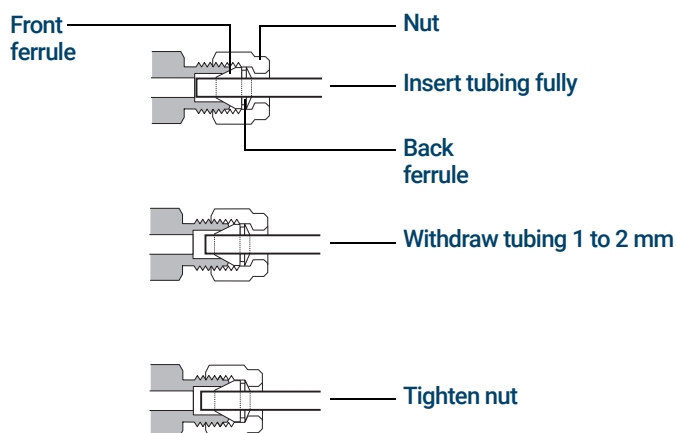

Figure 26. Insert the tubing
- 5 Push the tube fully into the plug, then withdraw it approximately 1 to 2 mm as shown in **Figure 26**.